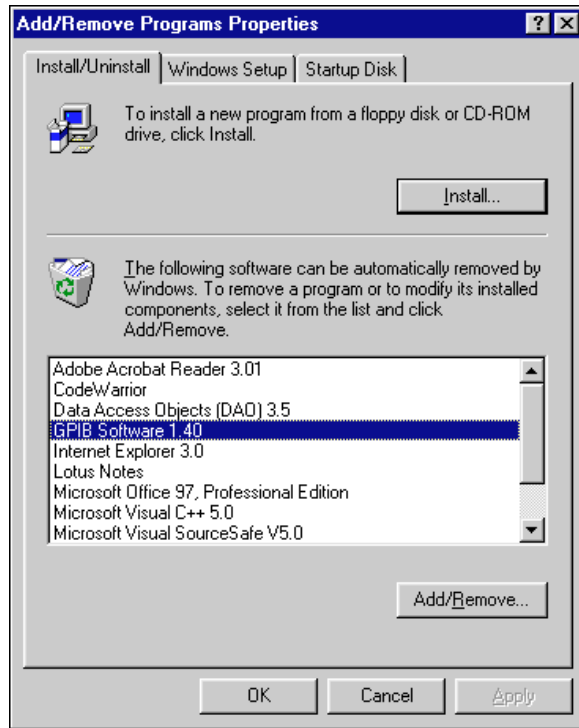

Figure A-2. Add/Remove Programs Properties Dialog Box
1. Select **Start»Settings»Control Panel** and double-click on the **Add/Remove Programs** icon. The dialog box shown in Figure A-2 lists the software available for removal.